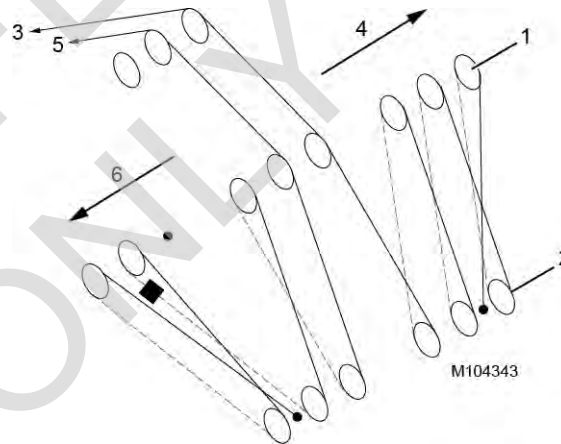

Figure 3-20. Example of Boom Point Reeving for Tandem Drums
- With both tandem drums unparked, the middle handle on the right console controls the drum that is configured for the right side boom point sheaves (Figure 3-20) independently if needed. Doing this will activate a fast beeping signal in the cab. The drum identifier will indicate the number of the drum that is configured for the right side boom point sheaves.
- If the drum that is configured for the right side boom point sheaves is parked, the left handle on the right console controls the drum for the left side boom point sheaves (Figure 3-20) independently if needed. The drum identifier will indicate the number of the drum that is configured for the left side boom point sheaves.